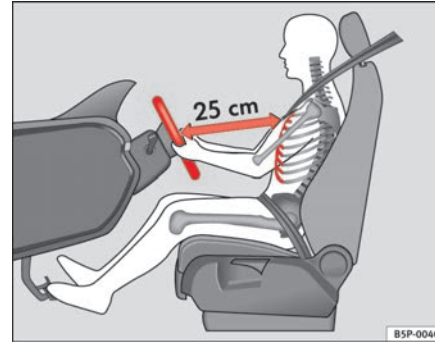

Fig. 114 Proper sitting position for driver
- Adjust the steering wheel in this way until the correct position is set ⇒ fig. 114.
- Adjust the driver seat or steering wheel so that there is a distance of at least 25 cm between the steering wheel and your breast bone ⇒ page 152, fig. 114. If you fail to observe the minimum distance, the airbag will not protect you. Risk of fatal injury.